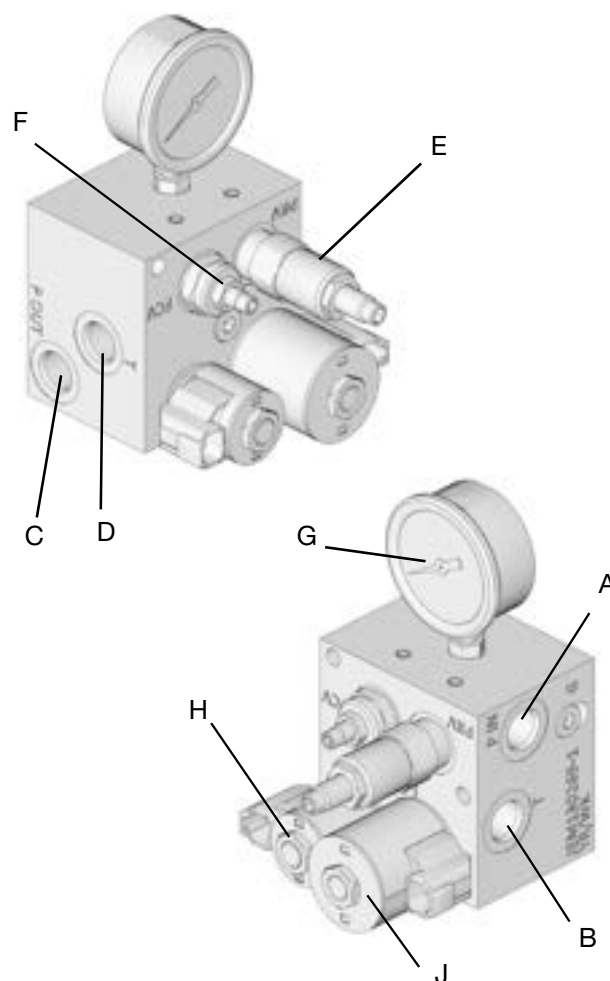
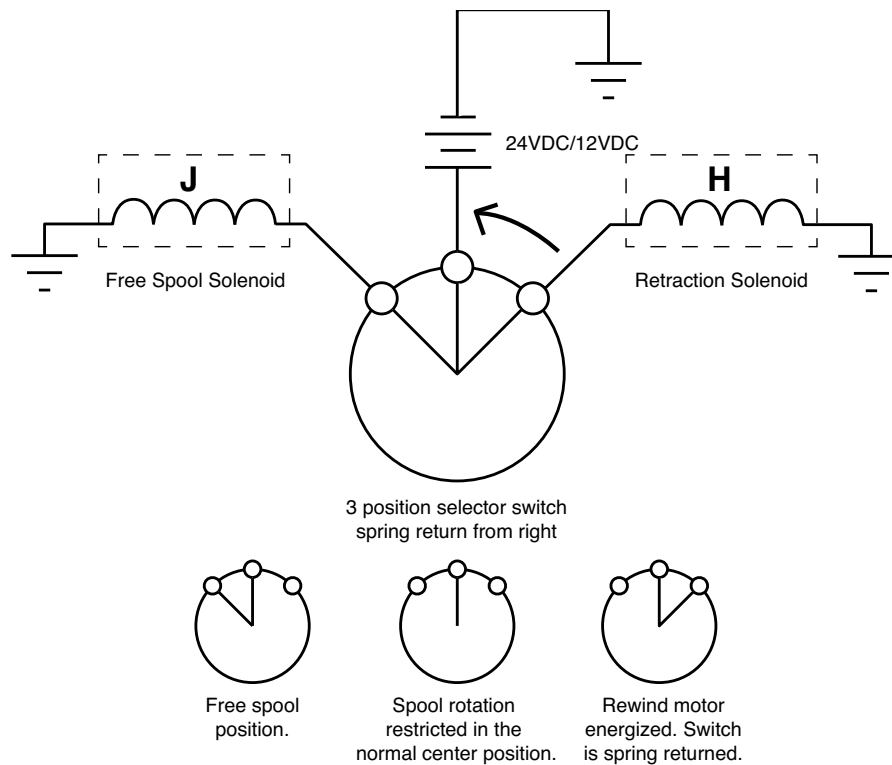
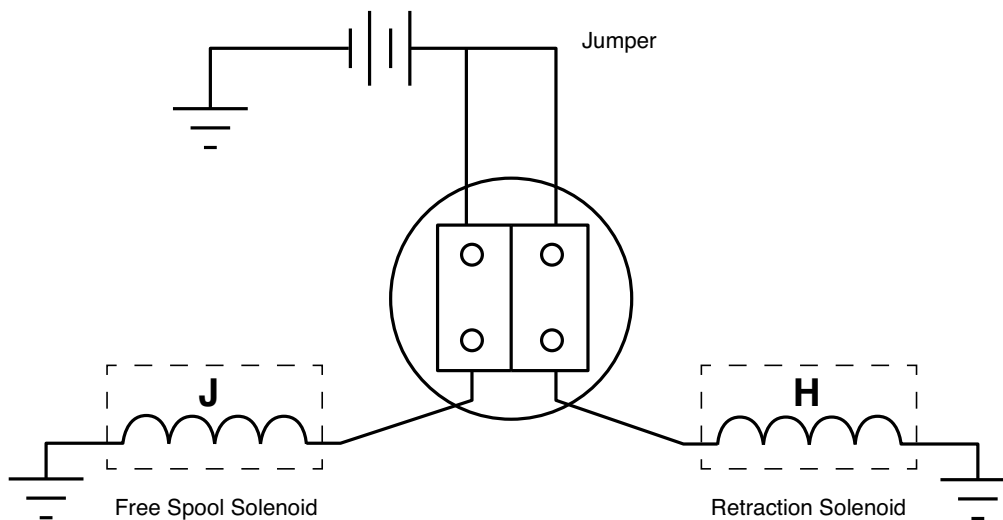

FIG. 19
FIG. 20
FIG. 21
1. Install hydraulic control (Graco PN 127224 - 12V or 127225 - 24V. See **Miscellaneous Kits**, page 45) (FIG. 19).
- a. Connect hydraulic power supply to hydraulic pressure inlet (A).
- b. Connect tank return hose to tank port (B).
- c. Connect hydraulic pressure outlet (C) to proper hydraulic motor inlet on reel for the desired rotation direction.
- d. Connect tank return (D) to remaining port on reel motor.
2. Wire switch to solenoids on hydraulic control module as shown in (FIG. 20 and FIG. 21).
- Hydraulic Motors - Reverse input and return to tank lines on hydraulic motor (FIG. 19, page 27).